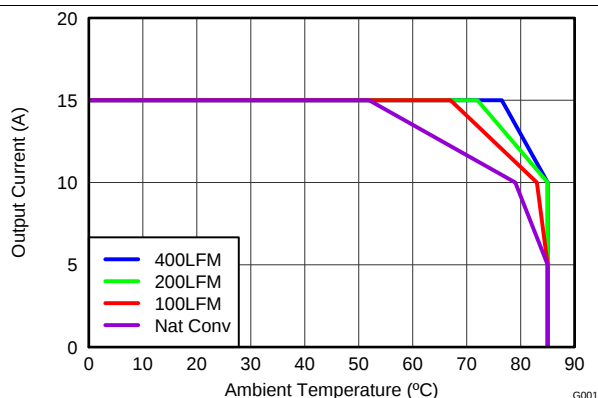
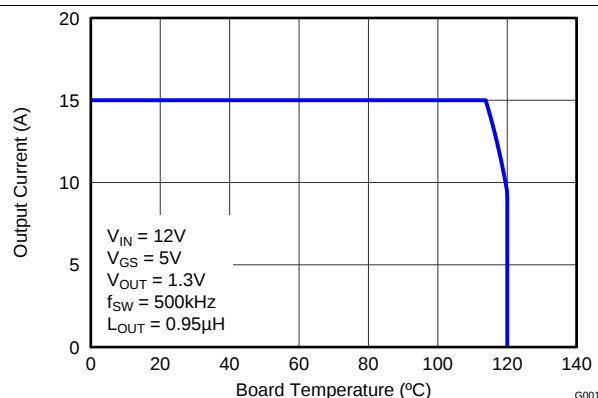

Figure 3. Safe Operating Area – PCB Horizontal Mount
Figure 4. Typical Safe Operating Area
$T_J = 125^{\circ}\text{C}$, unless stated otherwise. For Figure 3 and Figure 4, the Typical Power Block System Characteristic curves are based on measurements made on a PCB design with dimensions of 4 inches (W) $\times$ 3.5 inches (L) $\times$ 0.062 inch (H) and 6 copper layers of 1 oz. copper thickness. See Application and Implementation for detailed explanation.
$T_J = 125^\circ\text{C}$, unless stated otherwise. For Figure 3 and Figure 4, the Typical Power Block System Characteristic curves are based on measurements made on a PCB design with dimensions of 4 inches (W) $\times$ 3.5 inches (L) $\times$ 0.062 inch (H) and 6 copper layers of 1 oz. copper thickness. See Application and Implementation for detailed explanation.
The SOA curves in the CSD87381P data sheet provides guidance on the temperature boundaries within an operating system by incorporating the thermal resistance and system power loss. Figure 3 to Figure 4 outline the temperature and airflow conditions required for a given load current. The area under the curve dictates the safe operating area. All the curves are based on measurements made on a PCB design with dimensions of 4 inches (W) × 3.5 inches (L) × 0.062 inch (T) and 6 copper layers of 1 oz. copper thickness.